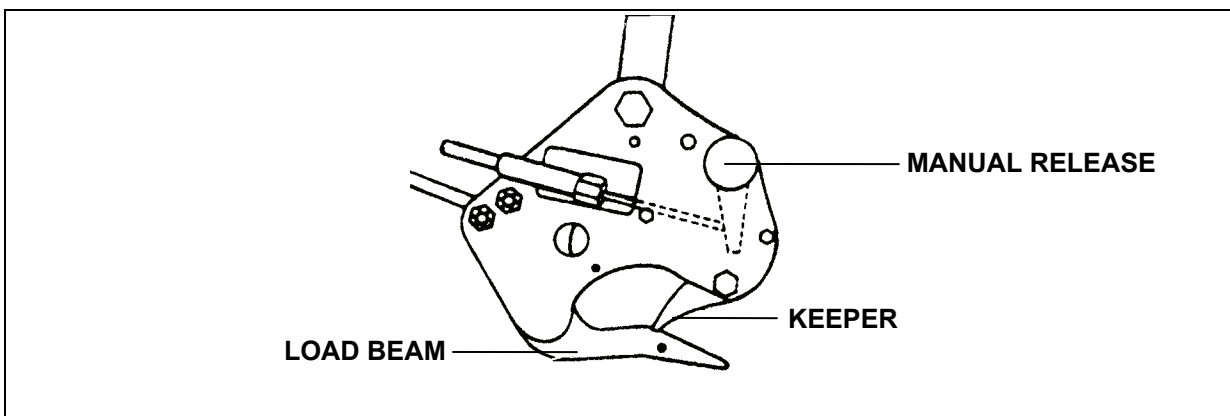

Figure 2-24. H-65A Cargo Hook System
- The cargo hook (Figure 2-24), rated at 2,000-pound capacity, is mounted on the underside of the helicopter directly below the main rotor. The aircrew can open the cargo hook electrically or manually. A manual release knob is located on the right-hand side of the hook. In an emergency, the ground crew can rotate the manual release knob clockwise to open the cargo hook.